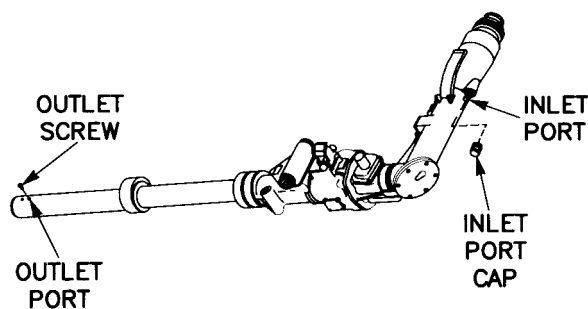

Figure 3-67 M118A2/M118A3 Elbow Telescope
d. Elbow Telescope, M118 Series (fig. 3-67).